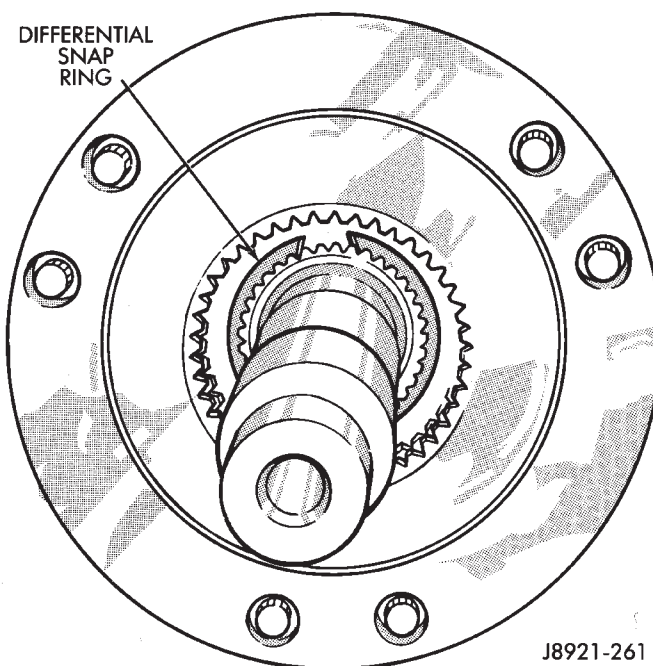

Fig. 76 Differential Snap Ring Installation
(14) Install mainshaft snap ring (Fig. 76).